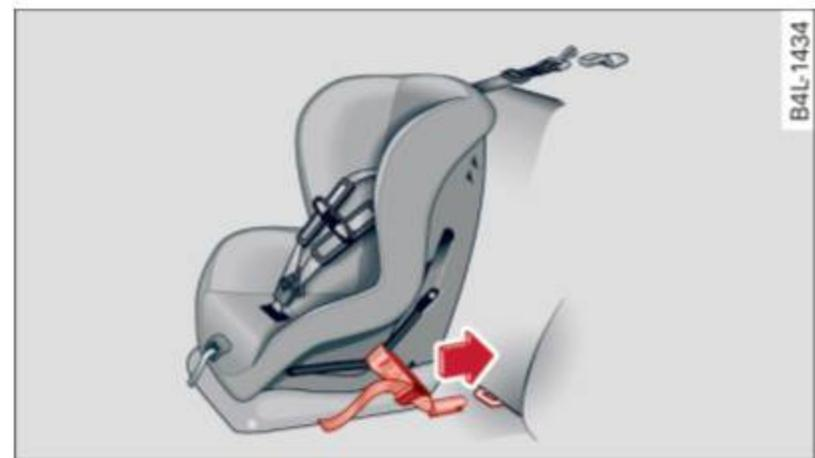

Fig. 169 Lower anchorages: proper mounting
- ▶ Attach both hook-on connectors with the spring catch release on the child safety seat onto the *LATCH* lower anchorage so that the connectors lock into place ⇒ *fig. 169*.